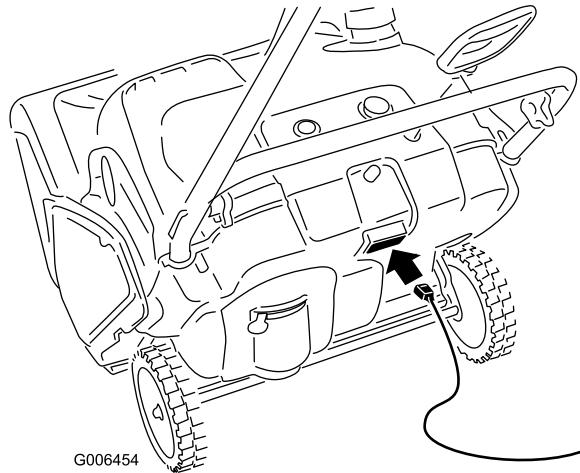
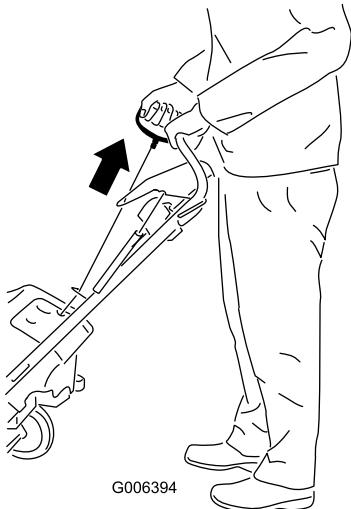

Figure 13
Figure 14
4. Connect an extension cord to a power source and the snowblower, and push the electric-start button (model 38584 only) (Figure 13) or pull the recoil starter (Figure 14).